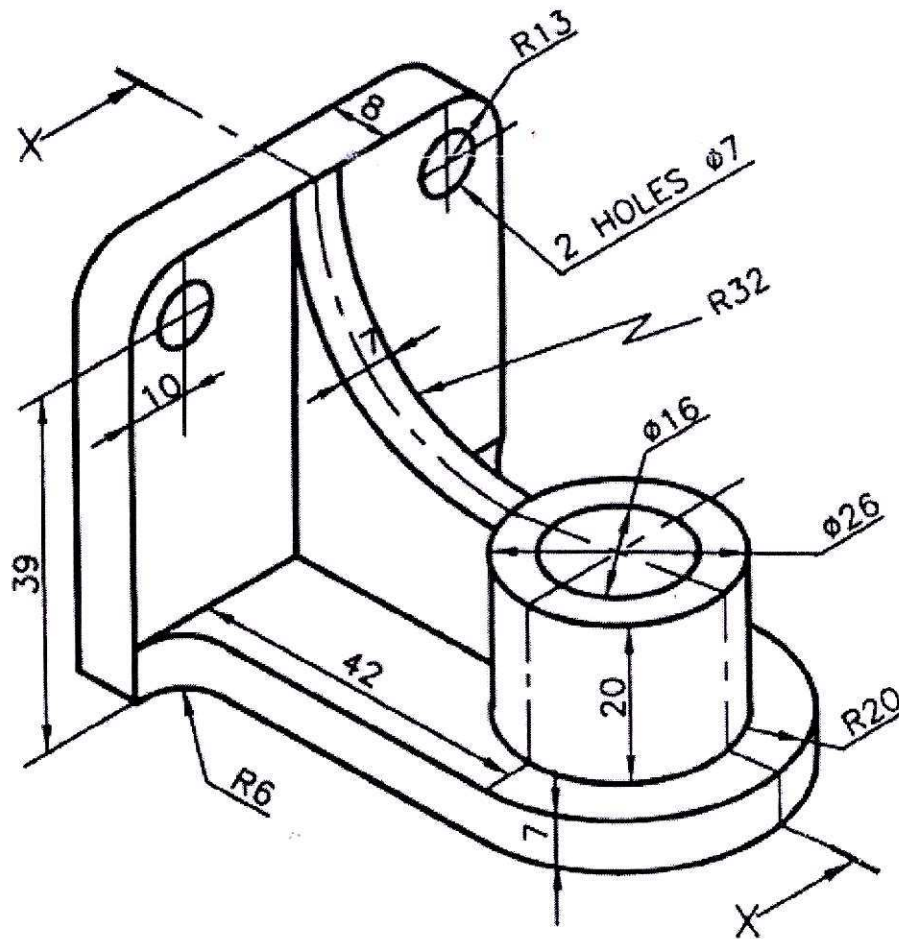

Fig. 2
4. Fig. 2 shows a pictorial view of a C I-Bracket. Draw the following views to full scale by using First Angle Method of projection :